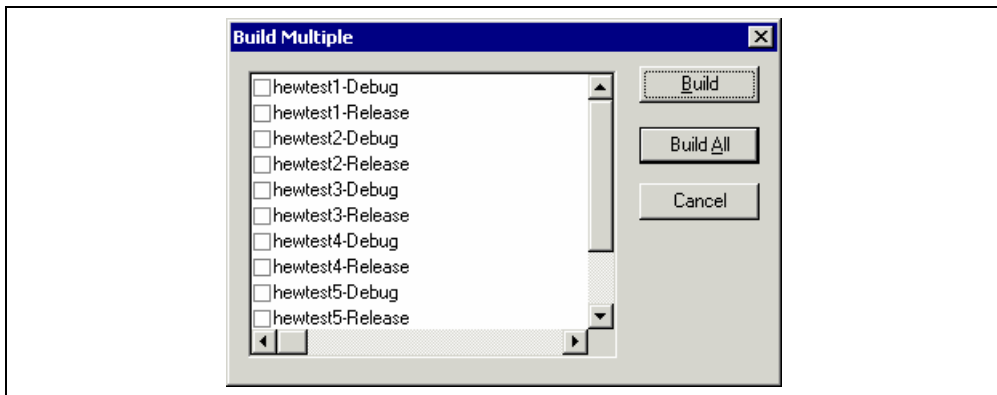

Figure 2.18: Build Multiple Dialog
1. Select **[Build->Build Multiple]**. The figure displayed in figure 2.18.
2. The build multiple gives you the choice of which projects and configurations should be built. To select which projects and configurations need to be built select the check box next to the project – configuration combination you want to build. For example, in figure 2.18 if you wanted to build the entire “hewtest2” project you would check the “hewtest2-Debug” and the “hewtest2-Release” selections and leave all other check boxes unchecked.